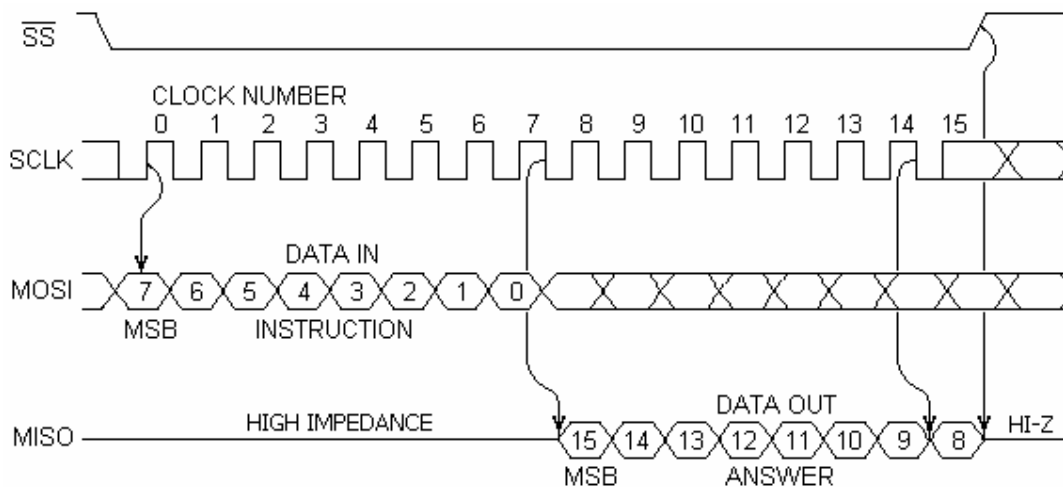

Figure 2. Serial Exchange Sequence (the reading of the higher half of the answer)
- If high level is applied to \overline{SS} during the answer reception, the answer will be truncated. It can be used to skip or to limit the reading of the answer to e.g. one byte only (see Figure 2).